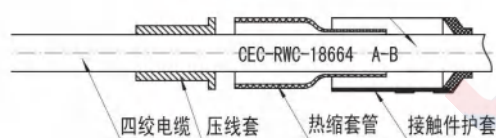

图2.2 将接触件护套和热缩套管套入电缆
- 1) For assembling socket contacts, select Conductor Direction A as shown in Figure 2.2. Sequentially install the transparent heat shrink tube for stress relief, contact boot, and crimp sleeve (used for cable shield connection and inner core fixation) onto the cable, as illustrated in Figure 2.2;